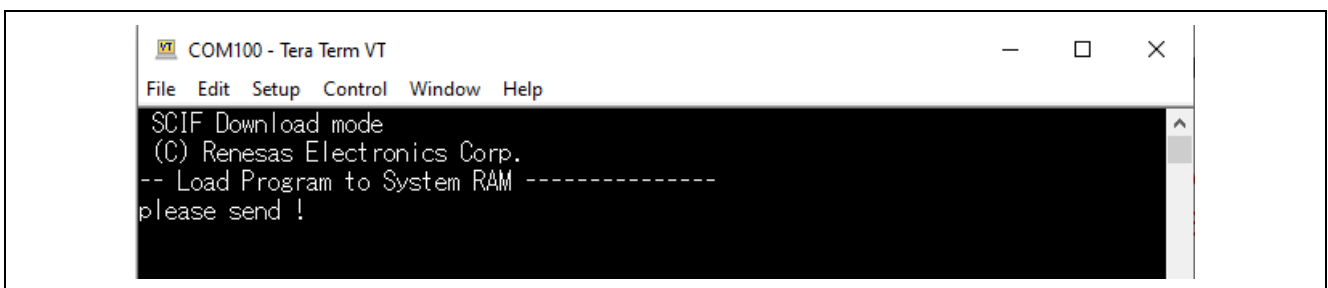

Figure 3.5 SCIF Download Mode
- Pressing the reset button starts EK-RZ/A3M in SCIF Download Mode and outputs the console as shown in Figure 3.5.